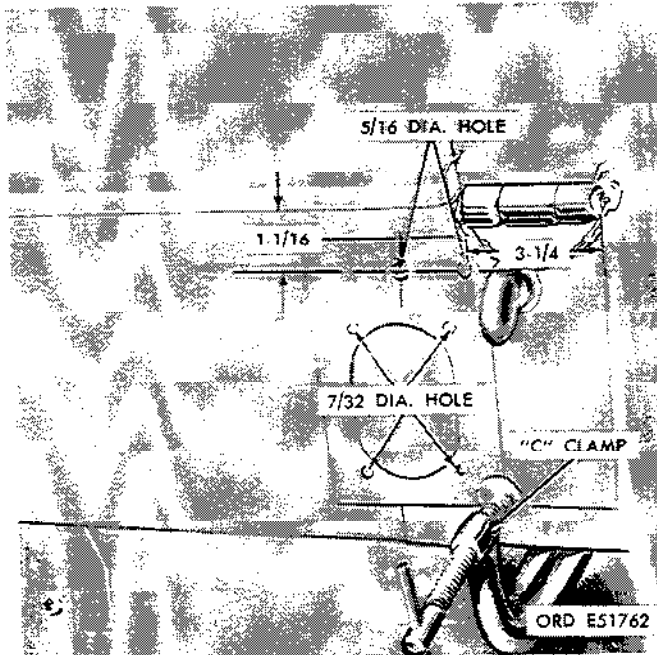

Figure 3-39. Reinforcement plate, right dash panel.
(1) Position and secure reinforcement plate (1) on the right dash panel with a C-clamp as indicated in figure 3-39.
(2) Using the reinforcement as a template, drill four 7/32 inch and two 5/16 inch diameter holes through the dash panel, as indicated in figure 3-39.
(3) Remove C-clamp and reinforcement plate.